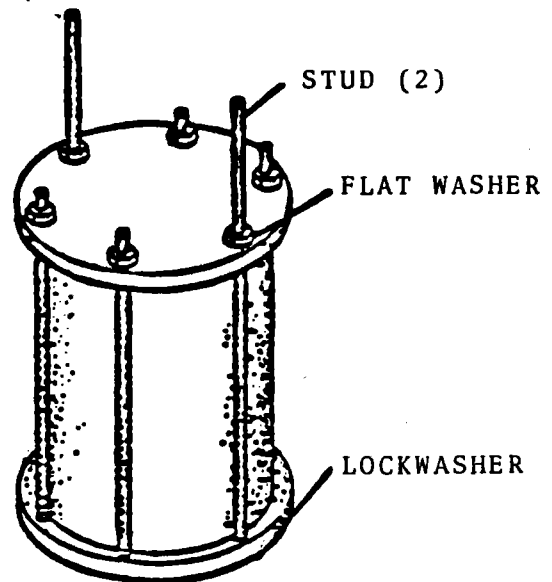

FIGURE 3-9. INSTALLING EXTENSION STUDS
a. Remove two directly opposite studs (4) from the actuator assembly.
b. Replace the two removed studs with two all-thread studs of a length at least 50% longer than the length of cylinder (3). Allow the excess length of the studs to extend above the upper cap. Install lockwashers under the stud nuts on the lower cap end of the studs and flat washers under the upper cap ends. (See figure 3-9).